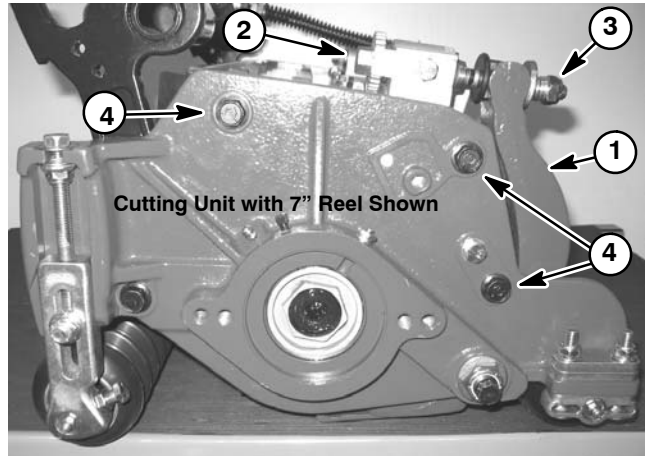

Figure 18
**NOTE:** Cutting units with 5" diameter reel use two (2) shoulder bolts to secure side plates to frame. Cutting units with 7" diameter reel use three (3) shoulder bolts to secure side plates to frame.
4. Loosen, but do not remove, shoulder bolts that secure the side plate to the frame opposite the side that is not level (Fig. 18).